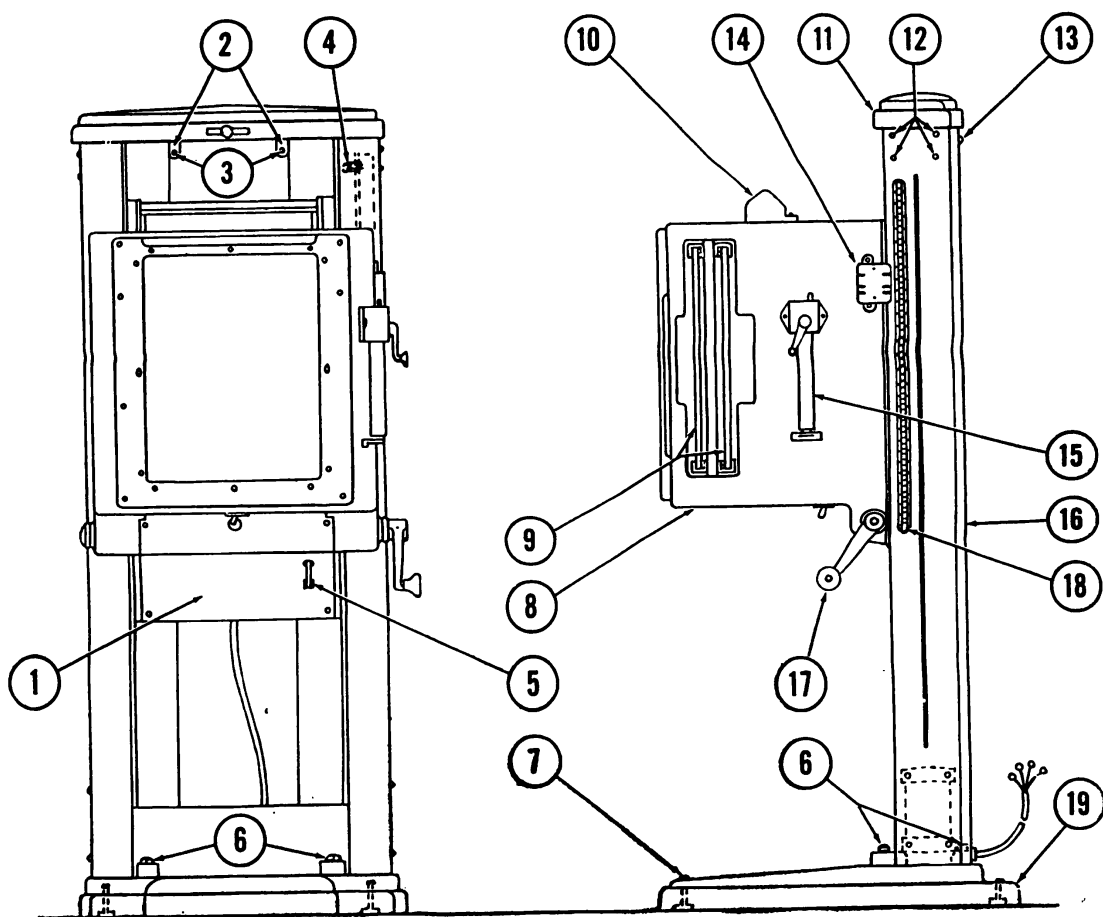
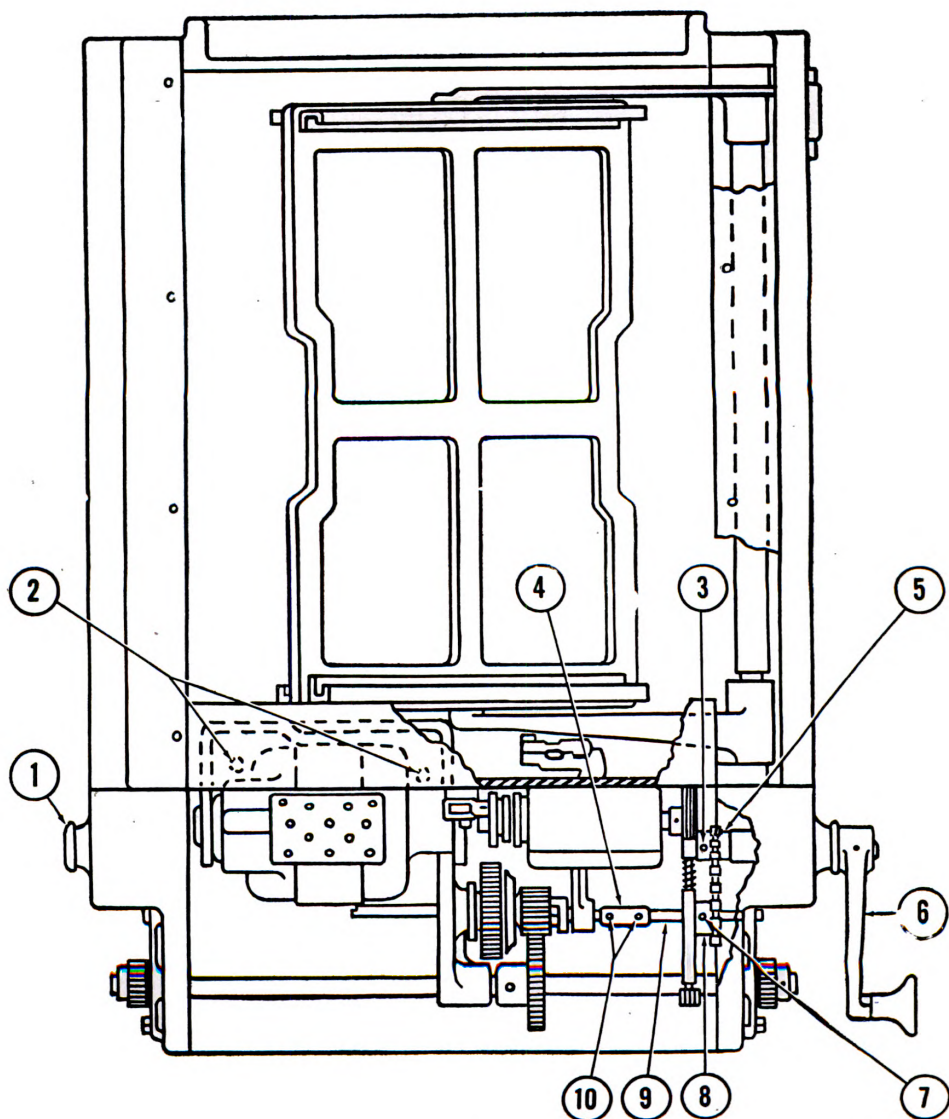

Figure 6. External parts of General Electric Cassette Changer.
Figure 7. Internal parts of General Electric Cassette Changer.
Unpack the base casting, 6R05252 (fig. 6). Next unpack the housing, 6R05262-64-66-68 (fig. 6), which contains the changing and raising mechanism. The large box containing the vertical or upright structure should be placed on the floor so that the vertical structure will rest on its back. The top, sides, and ends of the shipping box shall then be knocked out. The bottom of the box is so constructed that the vertical structure is blocked up, making it possible to fasten the base casting, 6R05252 (fig. 6), and to install the housing.
10. ASSEMBLY. a. General. Fasten the base to the vertical structure, using the four bolts furnished, SR00568 (fig. 6). The zinc-plated holes are placed at the rear. Remove the two screws, SR00044 (fig. 6), at the top rear of the vertical structure and take out the two threaded studs, 6R05336 (fig. 6), from the front side. Remove the four screws, SR00562 (fig. 6), on each side at the top and lift off the top casting, 6R05260 (fig. 6). Place the casting aside temporarily. Remove the height-adjustment stop, 6R05338 (fig. 6). The housing for the motor and raising
mechanism can now be installed. To avoid any possibility of marring the surfaces of the upright structure when installing the housing, it is recommended that a cloth be placed over each column from the top to a point about midway down. This will prevent the housing from coming in contact with the front side of the columns when positioning the housing. As soon as the rollers and gears are engaged, these cloths can be removed. Using two men, one at each side, place the housing into the upright structure by inserting it from the top end. Carefully guide it into place so that the rollers engage their respective tracks properly. Turn the crank, 6R05270 (fig. 6), so that the teeth on the pinion gears will mesh with the teeth on the gear racks. Run the housing into the structure far enough to permit reinstallation of the height-adjustment stop, 6R05338 (fig. 6). Place the top casting in position, then fasten it securely to the uprights by means of the screws, SR00562 (fig. 6), on each side. Insert the two threaded studs, 6R05336 (fig. 6), in the ears of the top casting, and insert the screws, SR00044 (fig. 6), through the rear panel, tightening them down firmly. The entire assembly can now be stood upright and moved into the position in which it is to be used.
b. Wall mounting. The base casting for wall mounted installation is fastened to the vertical structure in exactly the same manner as described for floor type installations. Provision is made for anchoring the unit to the wall by means of the ears, 6R05340 (fig. 6), on the top casting. First, remove the two screws, SR00044 (fig. 6), and the two studs, 6R05336 (fig. 6). Bolts or screws can be used for anchoring to the wall, depending upon the wall construction.
c. Converting to left-hand operation. The cassette changer is supplied arranged for right-hand operation of the raising and lowering mechanism. The cassettes can be inserted from either side. If it is desirable to have the raising mechanism arranged for left-hand operation, proceed as follows: remove the bottom cover, 6R05290 (fig. 6), by taking out the eight binding head screws and washers which fasten it in place. This permits access to the raising mechanism. Referring to figure 7, loosen the setscrew and drive out the pin, 6R05292, in the gear, 6R05324, on the end of the crankshaft, 6R05300. Pull out the shaft and crank. Loosen the two setscrews, 6R05296, in the sleeve, 6R05294. Drive out the pin, 6R05342, in the gear, 6R05326, and remove the shaft, 6R05344. Duplicate holes for the assembly just removed are provided on the left side of the housing. Pry off the cap, 6R05346, on the left of the housing and reinstall on the right. Reassemble the mechanism on the left side in exactly the same manner as it was found in the right. Be sure all pins have been installed and all setscrews firmly tightened. Remove the scale, 6R05274 (fig. 6), and the indicator, 6R05276 (fig. 6), from the right-hand column and install them in the same manner on the left column in the holes provided.
d. Leveling. The cassette changer can be leveled by means of the floor pads, 6R05278 (fig. 6), at the front and rear of the base casting. Check with a spirit level. Make certain that the cassette changer is exactly in line with the center of the X-ray table.
f. Height indicator scale. The height scale, 6R05274 (fig. 6), on the cassette changer shall be set up to correspond with the height scale on the tube stand. With the X-ray tube stand carriage turned to face the cassette changer, and with the arrow marked "Table Top" of its index scale opposite "25" on the tube column scale, measure the distance from the floor to the focal spot of the X-ray tube. Then raise or lower the cassette changer so that the distance from the center of the cassette changer panel to the floor will be the same as the distance just measured at the tube stand. Keep the cassette changer in this position and move the height scale so that "25" will be directly opposite the indicator. The height scale on the cassette changer is mounted in a small channel. To raise or lower the scale, simply force it up or down by pushing the scale from the top or bottom. If the scale binds, it can be pried off by inserting a screw driver beneath the bottom edge and working upward.
g. Brake adjustment. If the cassette is not parallel with the front panel of the changer, adjustment should be made on the brake screw, 6R05280 (fig. 6). If the brake is too tight, the brake screw should be turned to the left slightly. If the brake is too free, the screw should be turned to the right. The brake will have to be adjusted slightly when the size and type of cassettes are changed.
h. Immobilization device. If the immobilization device, 6R05282 (fig. 6), is a part of the installation, it shall be fastened in place, as shown in figure 6, using the four machine screws furnished. Mounting holes are provided in the housing. Since the cassette changer leaves the factory arranged for right-hand operation, these holes will remain open on the
i. **Paper dispenser.** If the paper dispenser, 6R05286 (fig. 6), is a part of the installation, it should be fastened at the top of the housing, as shown in figure 6. The necessary mounting holes are provided in the housing and the mounting screws are furnished with the dispenser.
b. Testing the unit. Place two 14- by 17-inch cassettes in the cassette changer channels, 6R05312 (fig. 6), with the front of the cassettes out-
ward. Set the tube stand stereo-shifter as indicated in its directions for operation. Place the control stand line switch in the ON position. Press the "stereo" hand-switch button; the cassettes should rotate so that the rear cassette moves to the front of the changer and the tube carriage should move the distance for which it was set. Repeat the above test ten times and observe if the cassette always ends its travel so that the front of the cassette is parallel with the front of the changer. If the cassette is not parallel, adjustments should be made on the brake screw, 6R05280 (fig. 6), as indicated in paragraph 10g. When using the magnetic release type of tube stand stereo-shifter, it is not necessary to hold the "stereo" button down during the entire excursion of the cassette mechanism. However, on the motor type stereo-shifter, it is necessary to press the button until the X-ray tube has completed its travel on the tube stand.
24. MOTOR BEARINGS. Oil the two motor bearings, 6R05288 (fig. 7), with a good grade medium oil once every 6 months.